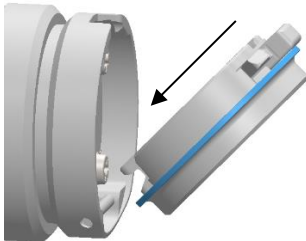

Figure 1.2
- 2) Align the groove on the tool-part with the rod on the robot-part (*figure 1.2*)